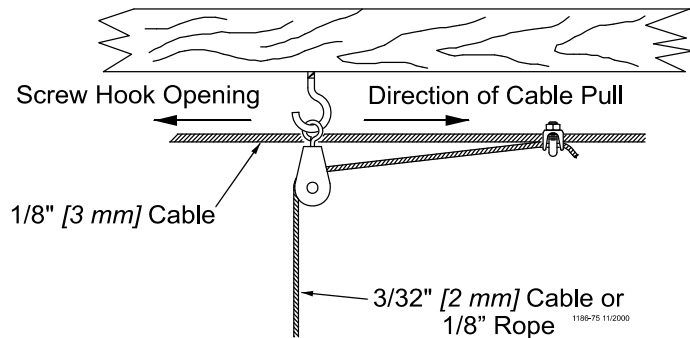

Figure 3. Screw Hook Installation
Screw the threads all the way in to prevent bending. The opening of the hooks must point away from the direction the cable pulls. See **Figure 3**
3. After the screw hooks or ceiling hooks have been secured to the trusses install the pulley assemblies as shown in **Figures 3 & 4**. Make sure the screw hooks or ceiling hooks are pointing in the proper direction (opposite the winch).